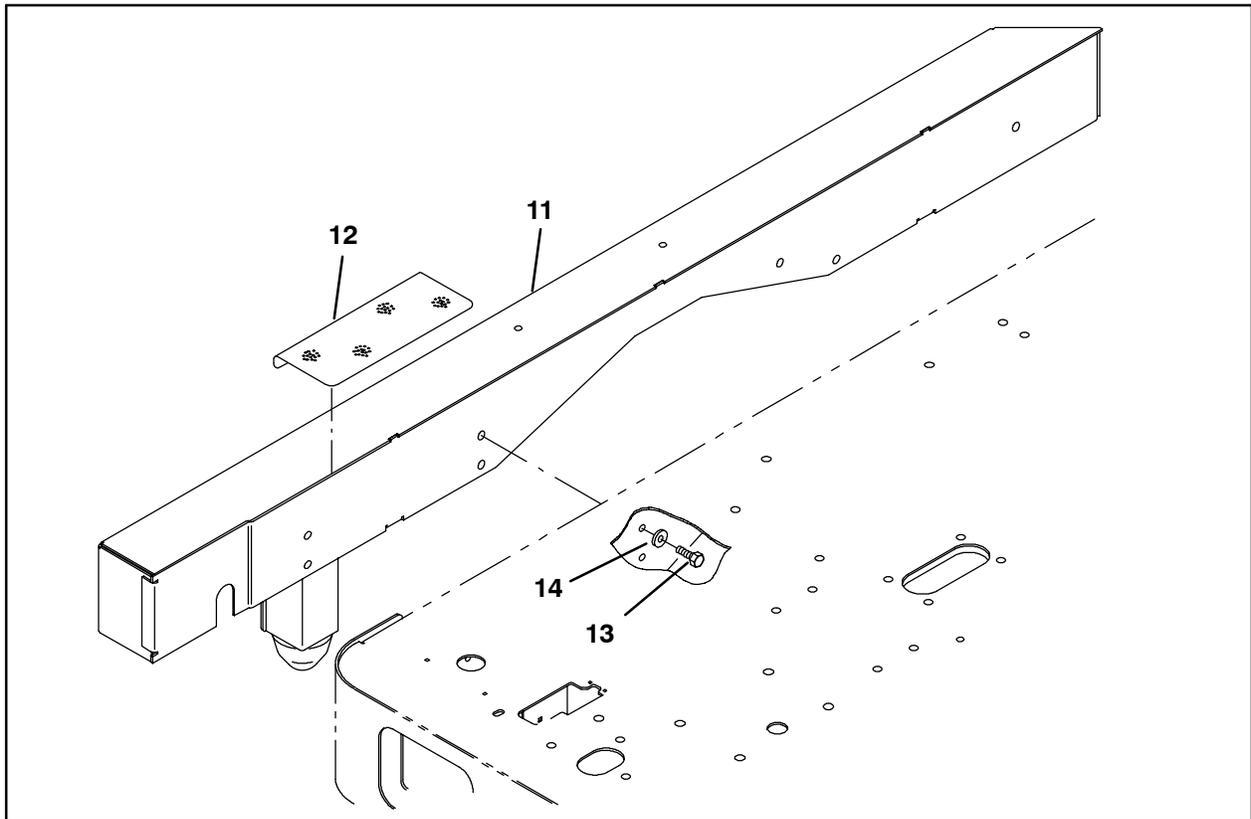

FIG. 12
26. Install the non-skid tread (12) onto the side bumper (11). Refer to Fig. 12.
27. Use seven hex screws (13) and seven flat washers (14) to install the side bumper (11) onto the machine. Refer to Fig. 12.